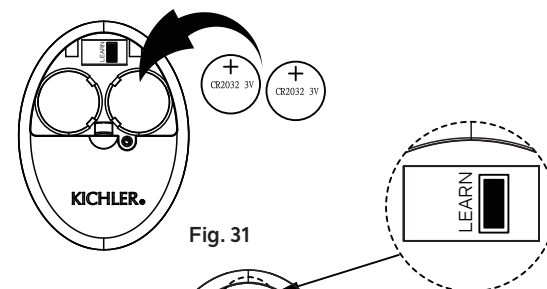

Fig. 31
**Step 2.** Install two 3V CR2032 batteries (included) with the + side facing up. (Fig. 31)